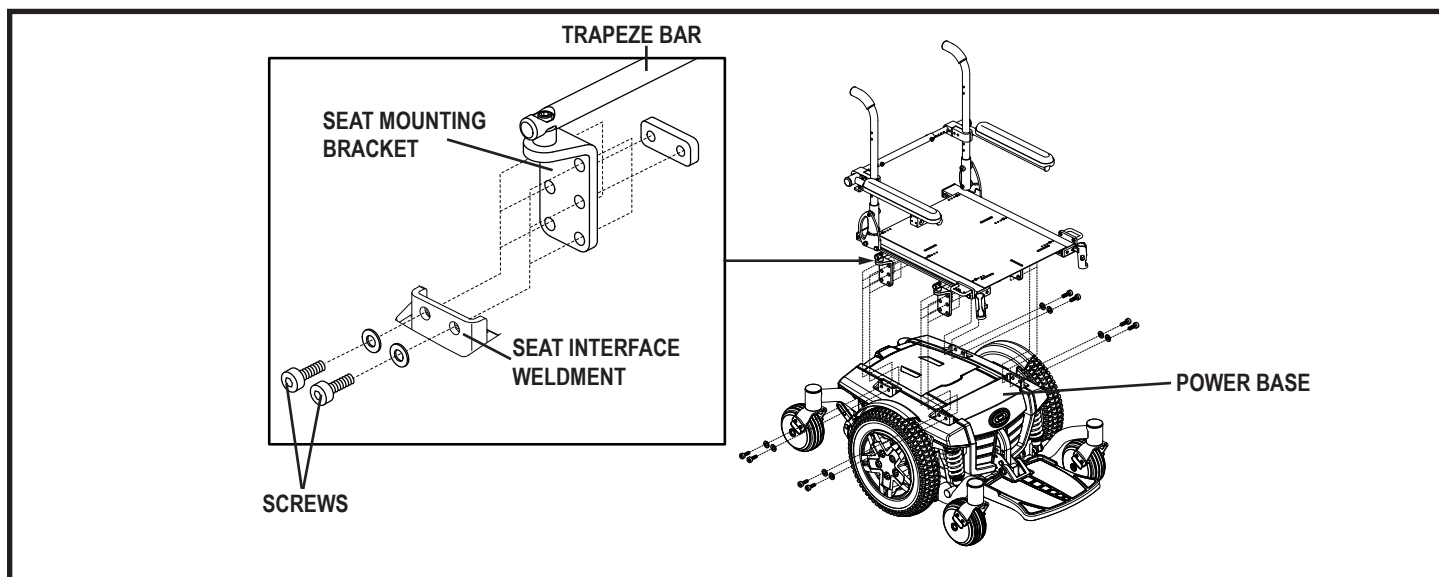

Figure 4. Seat Installation/Removal on Q6 Edge
1. Remove the screws from all of the seat interface weldments. **See figure 4.**
2. Lower the seat so that the four seat mounting brackets are inserted into the four seat interface weldments. **See figure 4.**